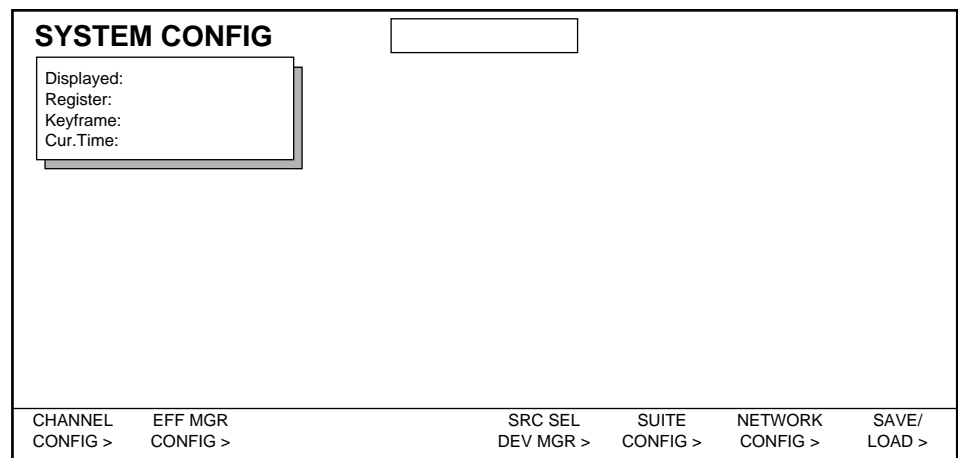

Figure 3-11. System Configuration Menu
2. Press OK to go to the System Configuration Menu (Figure 3-11). Pressing the CANCEL button returns you to the System Setup menu.